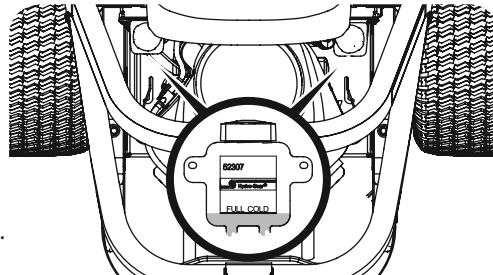

Figure 35
1. Clean the reservoir cap and the area around the cap to prevent debris from contaminating the transmission oil. See Figure 35.
2. Turn the reservoir cap counter-clockwise to remove, then check the oil level in the reservoir. Oil should be visible at the bottom of the cup, but the oil level must NOT be above the "FULL COLD" line. See Figure 35. DO NOT FILL THE RESERVOIR.
1. Remove the cap from the transmission oil expansion reservoir. See Figure 35.